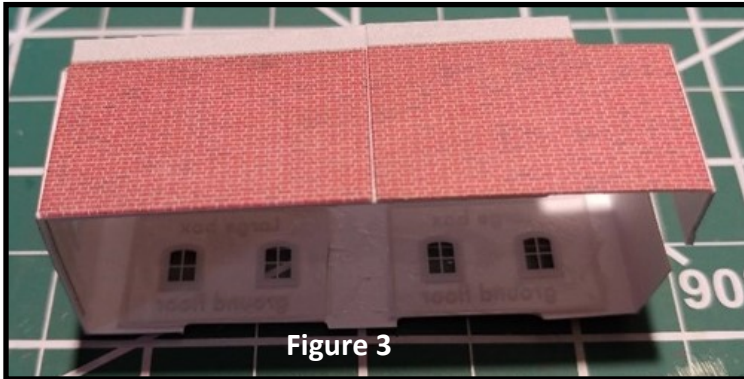
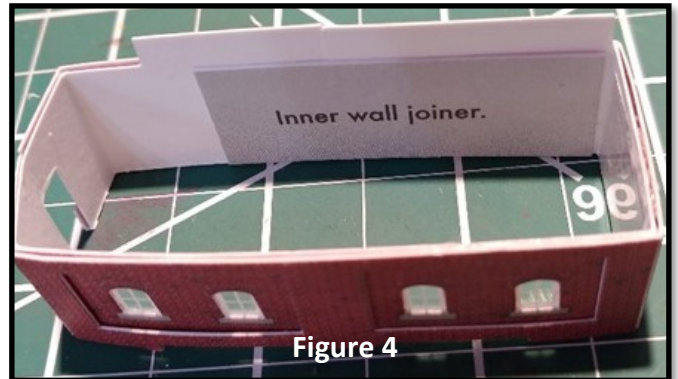

Figure 3
Figure 4
**Figure 3** shows the exterior of the butt joint. **Figure 4** shows the entire lower assembly glued together from the top. After this picture was taken, I added more glue into the top and bottom seams since the original glue quantity created unsightly and flimsy gaps.